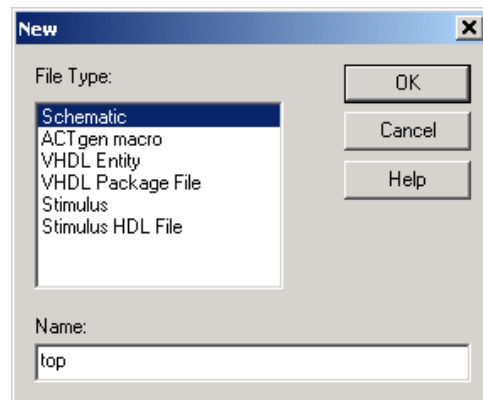

Figure 22 - Creating the top level schematic
1. From the Libero IDE File menu, click *New* again or double-click on *ViewDraw* in the process window. The New File dialog box is displayed (Figure 22).